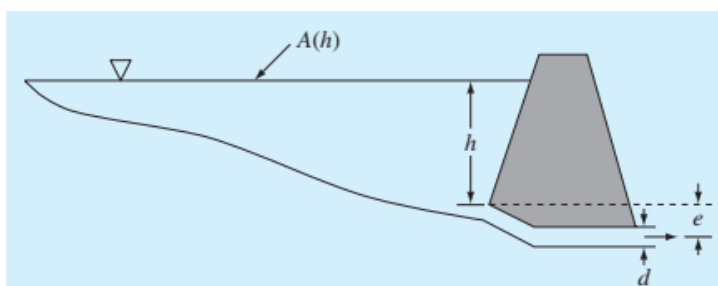

FIGURE P22.21
22.21 A pond drains through a pipe as shown in Fig. P22.21. Under a number of simplifying assumptions, the following differential equation describes how depth changes with time: